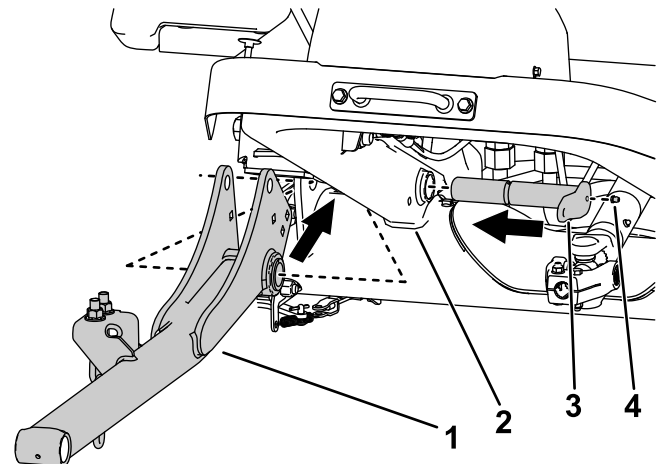

Figure 5
2. Use 2 large pins to install the lift arms to the machine frame (Figure 5).
3. Install the grease fittings to the large pins (Figure 5).